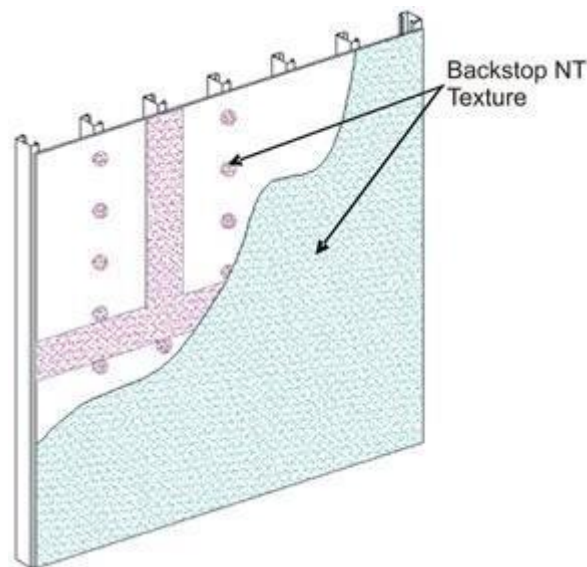

Figure 2
- 3) Use a coarse, open-cell foam roller cover with a 3/8 in (9.5 mm) foam nap (FoamPro #58 roller). Apply a uniform, continuous film of Backstop NTX Texture over the entire surface of the sheathing, concrete or masonry, including the previously treated areas – Figure 2. **NOTE: If the roller pulls material back out of the sheathing joints, it indicates that the joint material is not sufficiently dry.**